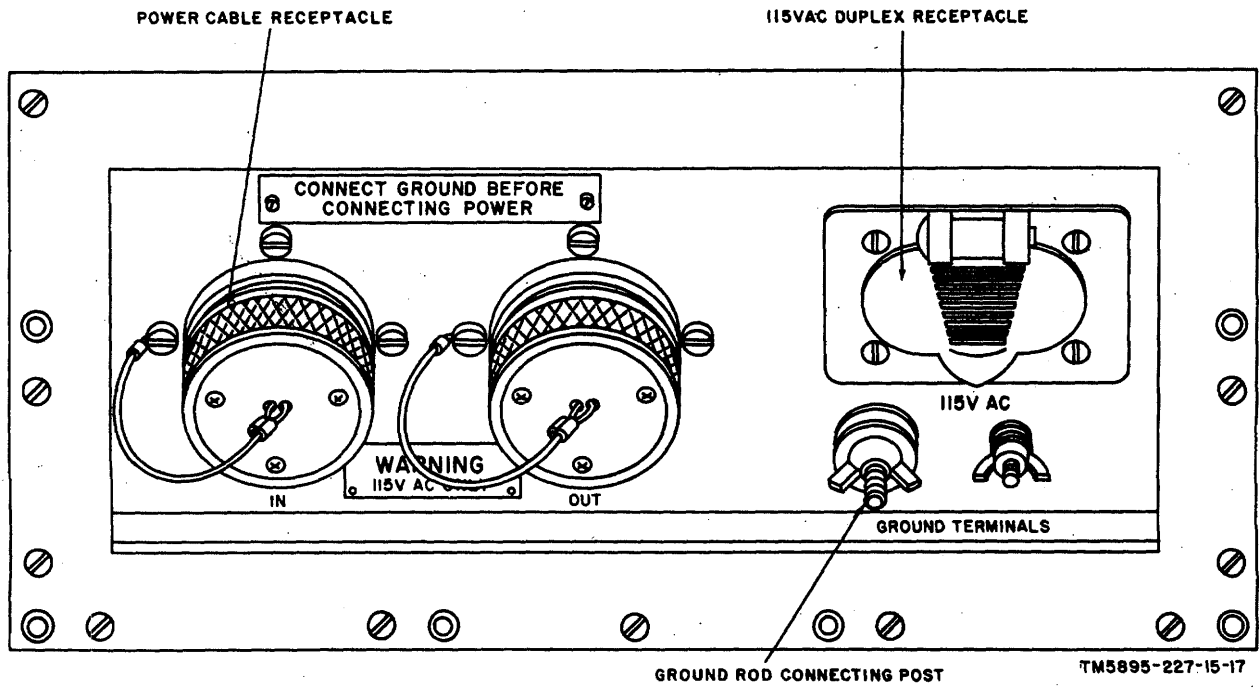

Figure 11. POWER ENTRANCE panel.
- (3) *Power entrance box*. The power entrance box (fig. 11) is mounted in-the exterior